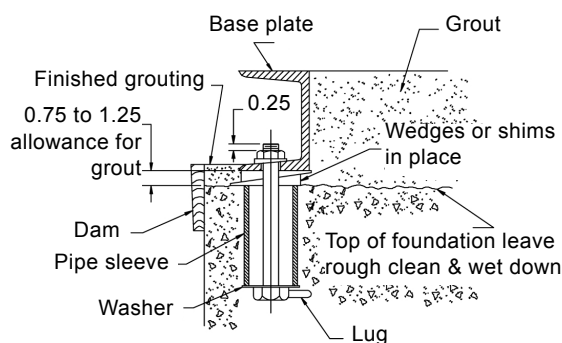

Fig. 2 Anchor bolt installation
Horizontal pumps should be permanently installed on a firm, concrete foundation mounting pad of sufficient size to dampen any vibration and prevent any deflection or misalignment. The pad may float on springs or be a raised part of the equipment room floor. The foundation should be poured without interruption to 3/4 to 1 1/2 inches below the final pump elevation. The top surface should be well scored or grooved before the concrete sets to provide a suitable bonding surface for the grout. Anchor bolts should be set in pipe sleeves for positioning allowance, as shown in fig. 2. Allow enough bolt length for grout, lower base plate flange, nuts and washers. Allow the foundation to cure several days before proceeding with pump installation.
- After pump alignment has been established (LFE), put nuts on foundation bolts and tighten them just enough to keep the unit base plate from moving. Construct a form or dam around the concrete pad and pour grout in and around the pump base, as shown in fig. 2. Grout compensates for uneven foundation, distributes the weight of the unit, and prevents shifting. Use an approved, non shrinking grout (such as Embeco 636 by Master Builders, Cleveland, Ohio or equivalent). Allow at least 24 hours for this grout to set before proceeding with piping connections.